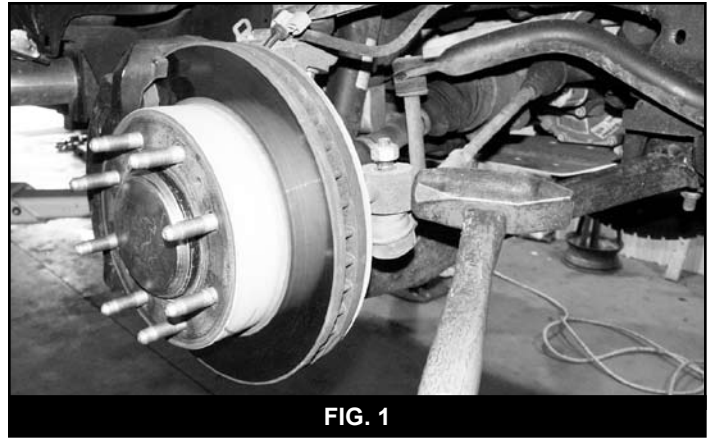

FIG. 1
14. Disconnect the tie rod ends from the steering knuckles. Remove and retain the mounting nuts. Strike the steering knuckle at the tie rod end to dislodge the end (Fig 1). Take care not to damage the tie rod end.